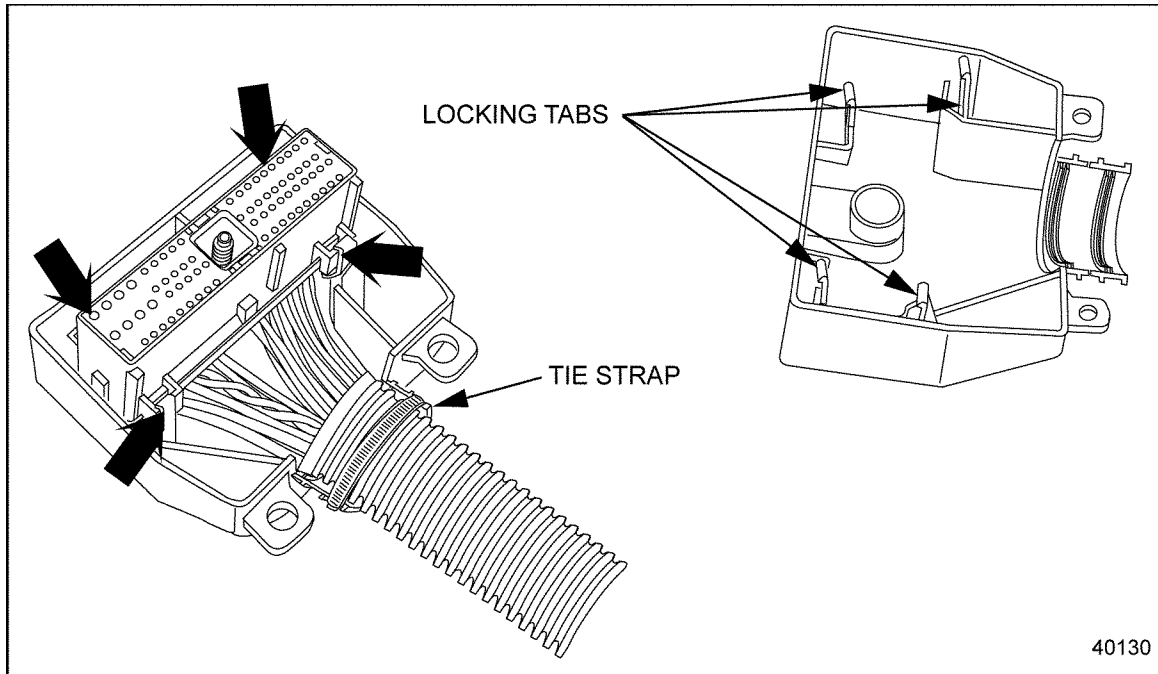

Figure 16-24 Tyco Connector and Locking Tabs
4. Secure the harness in the shroud neck with two tie wraps (see Figure 16-24).
2. Remove the connector from the shroud by pushing the four locking tabs (arrows) back from the connector. Use the screwdriver to push back the tabs closest to the shroud wall (see Figure 16-24).